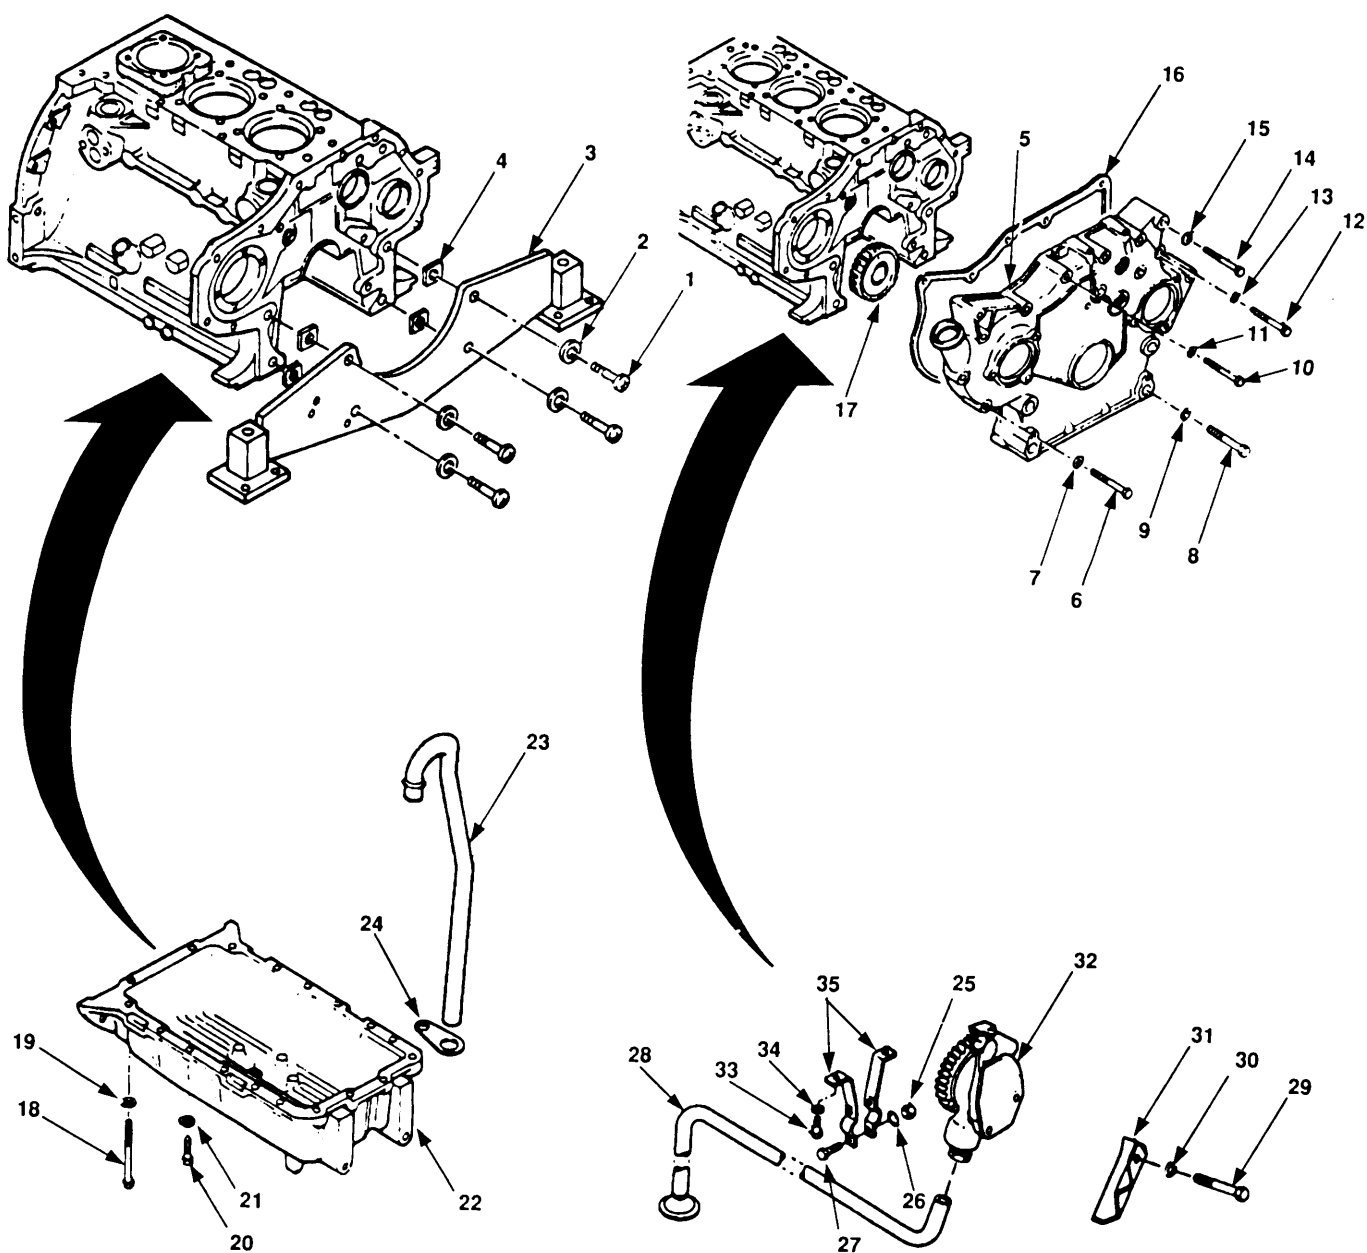

Figure 6-7. Engine Mount, Front Cover, and Oil Pump Removal.
- a. Remove four bolts (figure 6-7, 1), washers (2), one motor mount (3) and four washers (4).